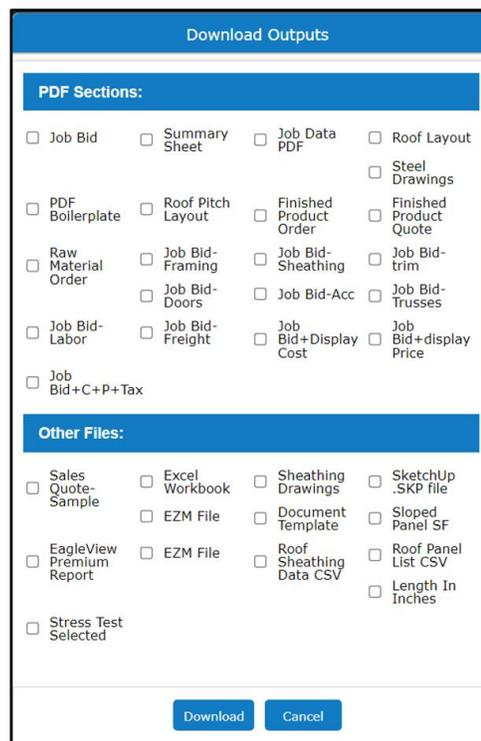

Figure 21: the *Download Outputs* dialog box.
2. The dialog box pictured in **Figure 21** (right) will open, asking you to confirm that you are ready to lock down the materials and pricing for this job. Click on the *Yes* button. (Don't worry, you can always re-quote a job if changes need to be made after you have clicked on the *Yes* button.)